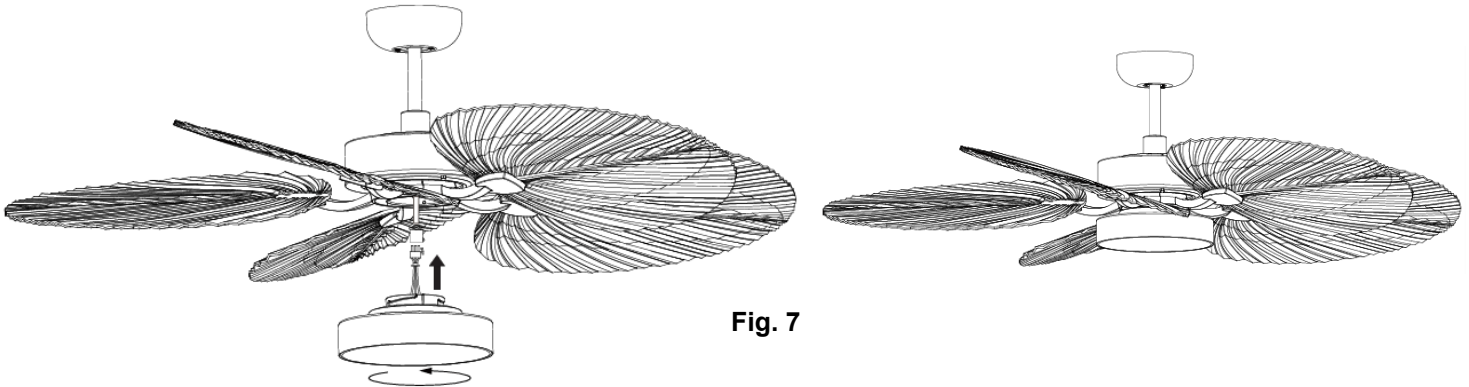

Fig. 7
- Connect the wires of light kit to the fan assembly via the quick connector. (Fig. 7)
- Install the light kit on the fan assembly then secure it by turning clockwise. (Fig. 7)